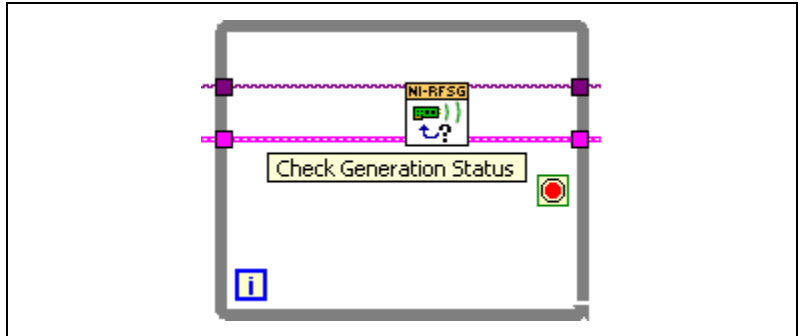

Figure 1-29. Enclose niRFSG Check Generation Status VI in the While Loop
15. Enclose the niRFSG Check Generation Status VI in the While Loop, as shown in Figure 1-29.